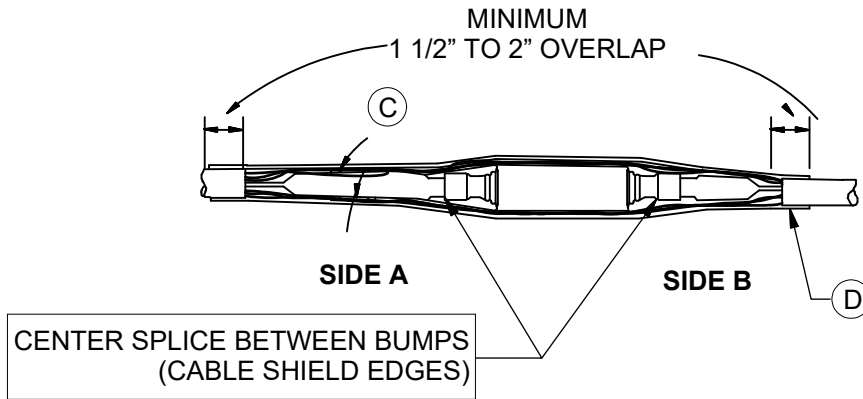

Figure 3
10. Lubricate insulation and semi-con shield of Cable B with silicone grease. Slide splice body onto Cable B and into final position over the connector. Use the bumps formed on the splice ends as guides for centering. See Figure 3.
11. Connect concentrics with two sleeves on Side A. For single phase cables, place five wires per side into each sleeve. For three phase cables, place all six wires into one sleeve. Crimp the sleeves. Snug sleeves and wires tightly against splice and cable. See Figure 3.